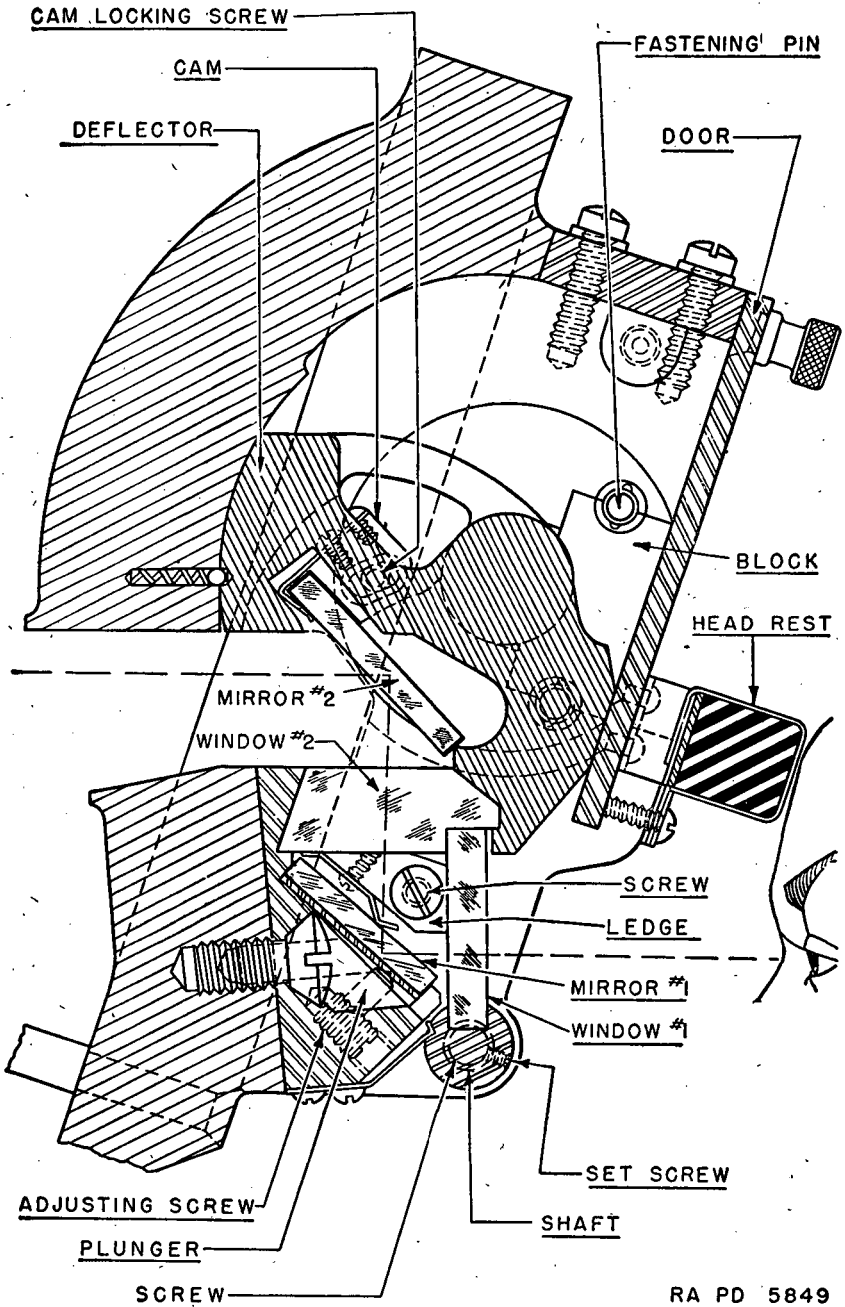

FIGURE 86.—Front door periscope.
(2) *Maintenance.*—Keep the windows and mirrors of the protectoscope clean and free of oil. Keep the deflector trunnions, blocks, and adjusting screws of the windows oiled to prevent corrosion. Adjust the upper and lower mirrors to obtain the best vision. The upper mirror (mirror "2") may be adjusted by loosening the locking screw on each cam (fig. 86) and setting the mirror at the desired angle. Tighten cam locking screws when the desired angle is obtained. See
replacement instructions for procedure on making these cam locking screws accessible. The lower mirror is adjusted by means of adjusting screws near the ends of the mirror and beneath it (fig. 86). Turning these screws clockwise rotates the mirror closer to the horizontal position, anticlockwise toward the vertical position. Since turning one screw only changes the angle and tilts the mirror, the adjusting screws will be turned together when changing the angle of the mirror.
2. Rotate bullet deflector forward, or anticlockwise as shown on figure 86.
3. Rotate window "1" backward, or clockwise as shown on figure 86.
7. Rotate deflector backward or anticlockwise on figure 86, until mirror "2" is alined with the slot milled in the housing. Mirror "2" in this position is parallel with the door.
9. Loosen ledge locking screws (fig. 86).